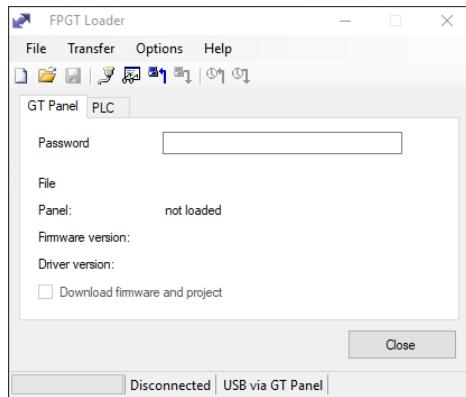

Figure 6
12) Click the GT Panel tab. (Figure 6)